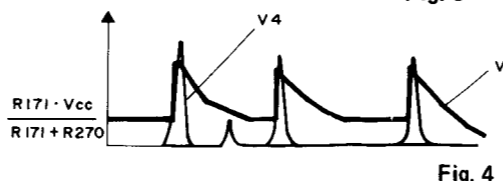

Fig. 4
5) By amplifying this via A3, the waveform shown as V₄ in Fig. 4 is obtained: V_c is obtained by peak-holding this.